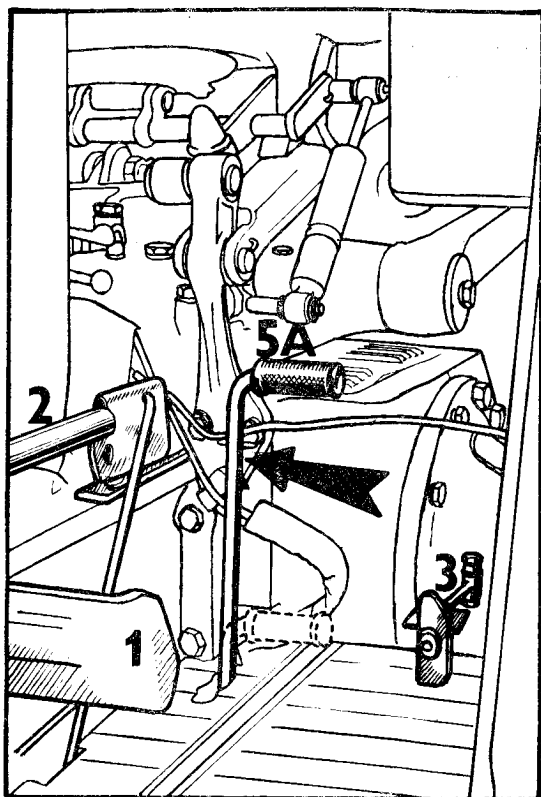

Fig. 3
1. Travel clutch pedal (Fig. 3/1).
2. Hand controlled disengagement of the PTO clutch (Fig. 3/2)
3. Torque multiplier control pedal (Fig. 3/3)
- 5A. Front axle drive control lever (Fig. 3/5A)